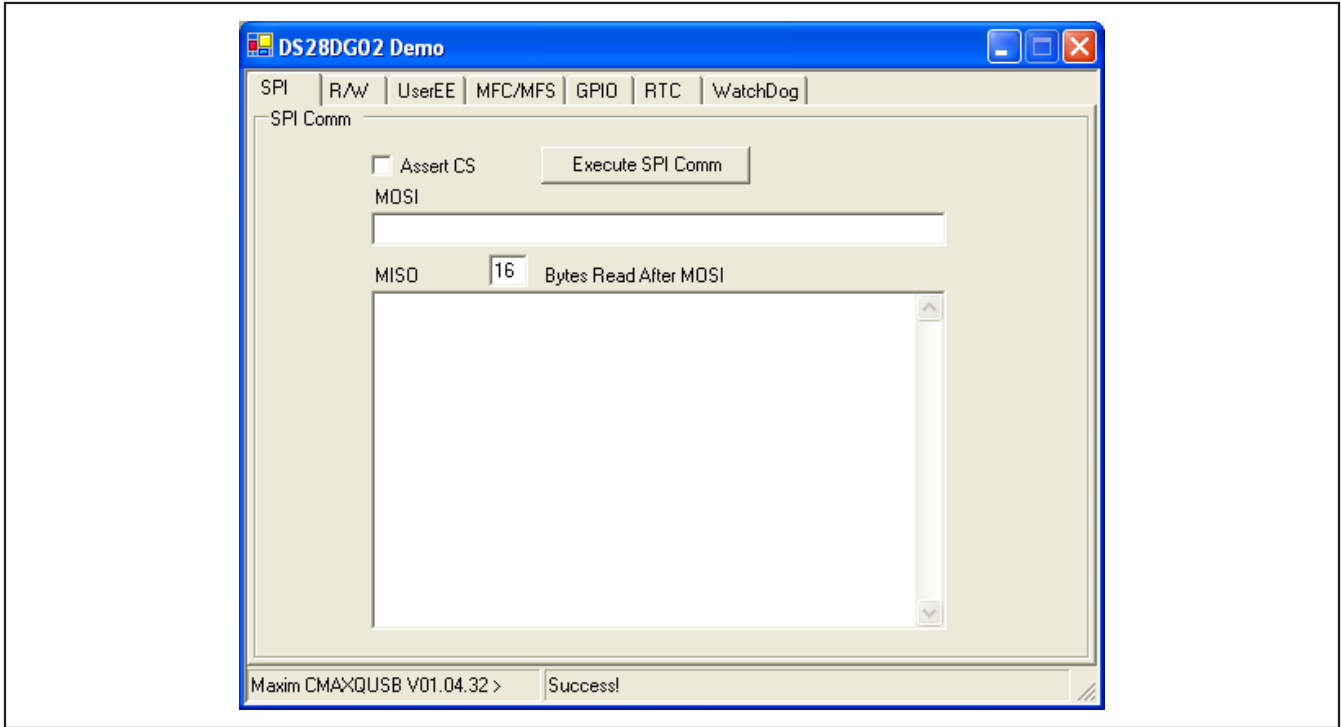

Figure 3. DS28DG02 Evaluation Software: Main Window
Figure 3 shows the DS28DG02 software program's main window. Note that it consists of seven tabs, with each tab offering the ability to exercise a group of related DS28DG02 functional blocks. The sections are: **SPI**, **R/W**, **UserEE**, **MFC/MFS**, **GPIO**, **RTC**, and **WatchDog**. Each of these tabs is described in this section.
See Figure 3 for a screenshot of the **SPI** tab. This tab allows the user to input raw SPI commands and communicate to the DS28DG02 through this low-level serial protocol. The user can assert the chip select (CS) pin to enable communication to the device, and send data to the chip by inputting data into the master-out, slave-in (**MOSI**) text box and clicking the **Execute SPI Comm** button. **MOSI** is also read out from the chip during the data exchange.